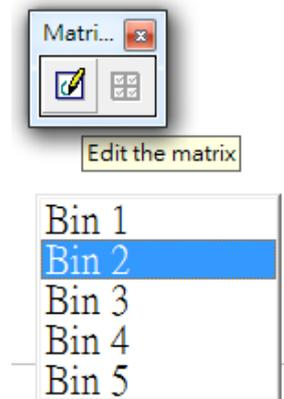

Fig. 3.3.26
**Max Bin:** Create new bins (layers) to edit different objects for matrix to use. The range of bins is 1~16. Users can select different bins to edit from Matrix Tool Bar, see Fig.3.3.26.